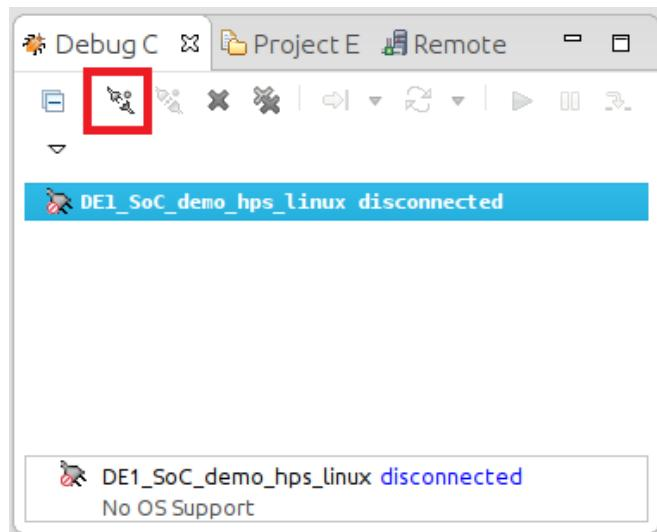

Figure 13-28. Debug Control View
88. In the “Debug Control” view, click on the “DE1\_SoC\_demo\_hps\_linux” entry, then click on the “Connect to Target” button, as shown on Figure 13-28. The debugger will start an SSH connection to the linux distribution running on the DE1-SoC and will automatically transfer our binary file and wait at our application's “main()” function. If you are prompted to log in, then log in with the **ROOT** user and password.